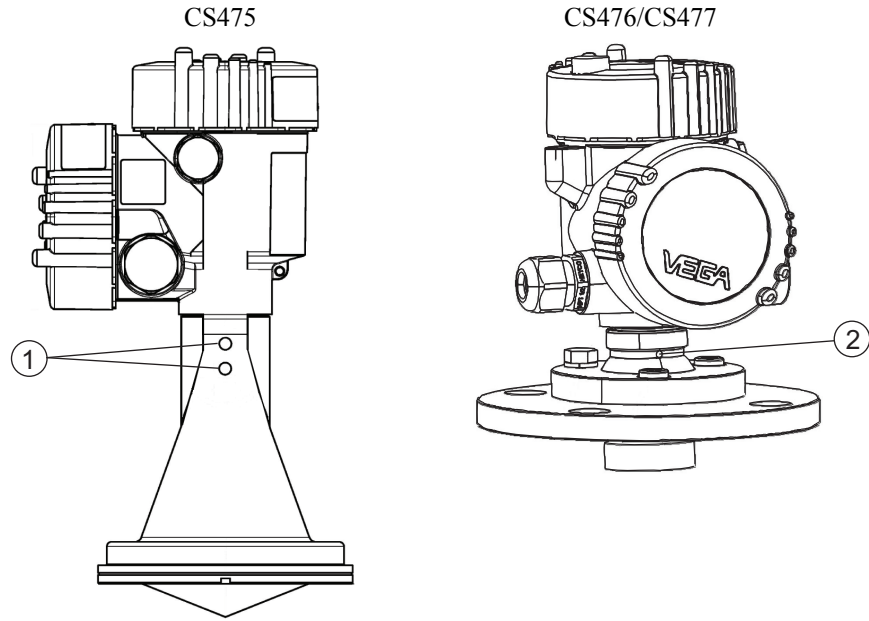

FIGURE 4-1. Polarization markings (see TABLE 4-4 for label descriptions)
5. Orient the sensor such that one of its polarization markings is aligned towards the wall or pier (see FIGURE 4-1 and TABLE 4-4).